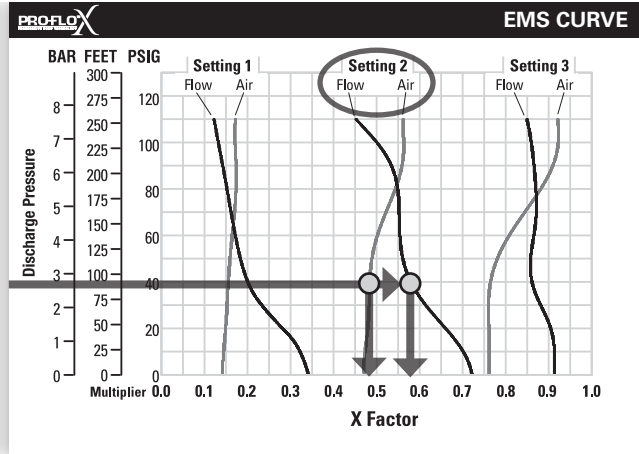

Figure 2
FIGURE 2 When the pressurized diaphragm, diaphragm A, reaches the limit of its discharge stroke, the air valve redirects pressurized air to the back side of diaphragm B. The pressurized air forces diaphragm B away from the center while pulling diaphragm A toward the center. Diaphragm B is now on its discharge stroke. Diaphragm B forces the inlet valve ball onto its seat due to the hydraulic forces developed in the liquid chamber and manifold of the pump. These same hydraulic forces lift the discharge valve ball off its seat, forcing fluid to flow through the pump discharge. The movement of diaphragm A toward the center of the pump creates a vacuum within liquid chamber A. Atmospheric pressure forces fluid into the inlet manifold of the pump. The inlet valve ball is forced off its seat allowing the fluid being pumped to fill the liquid chamber.
Step 2: Determining flow and air X Factors. Locate your discharge pressure (40 psig) on the vertical axis of the EMS curve (Figure 2). Follow along the 2.8 bar (40 psig) horizontal line until intersecting both flow and air curves for your desired EMS setting (in this case, setting 2). Mark the points where the EMS curves intersect the horizontal discharge pressure line. After locating your EMS points on the EMS